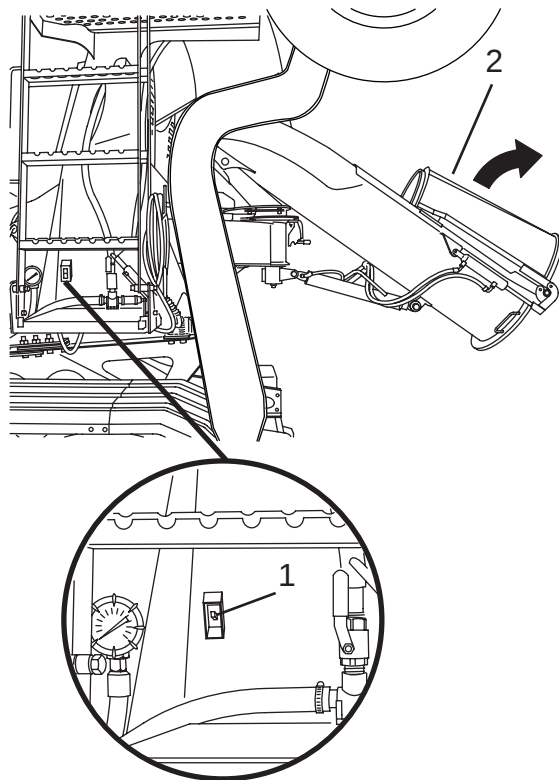

Figure 35
3. Press and hold the fold-over toggle switch (Figure 35, Item 1) until the fold-over chute (Figure 35, Item 2) is fully seated against the main chute. Release the switch.
1. Press and hold the fold-over toggle switch (Figure 35, Item 1) until the fold-over chute (Figure 35, Item 2) is fully seated against the main chute. Release the switch.